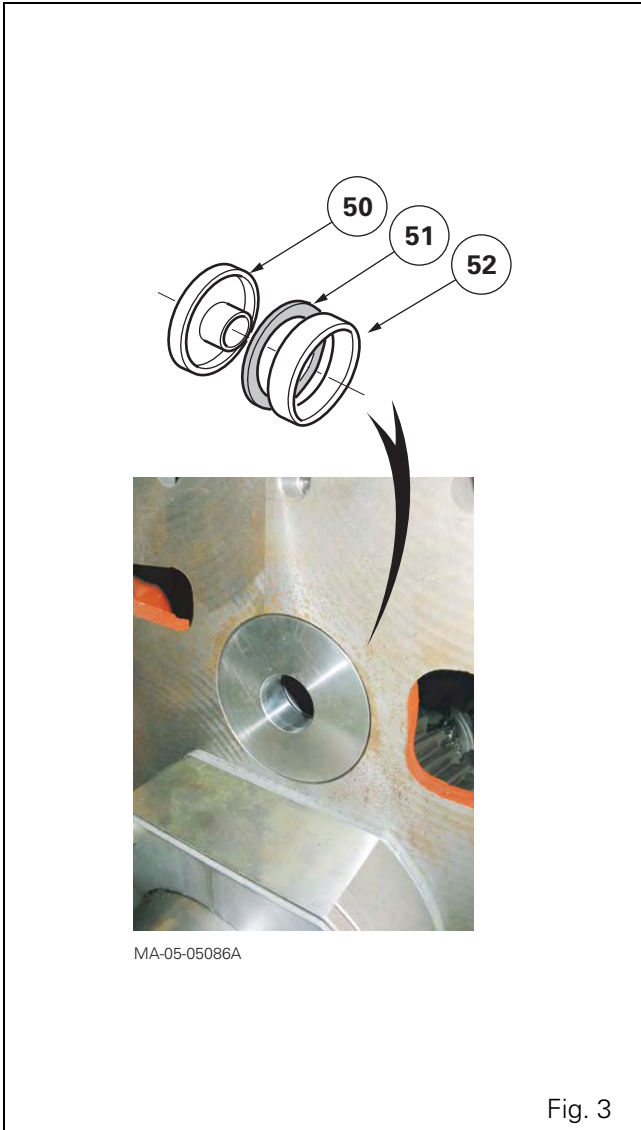

Fig. 3
6. Remove the oil deflector (50) using a slide hammer puller and remove the shims (51) and the cup (52) (Fig. 3) to release the rear end of the shaft.